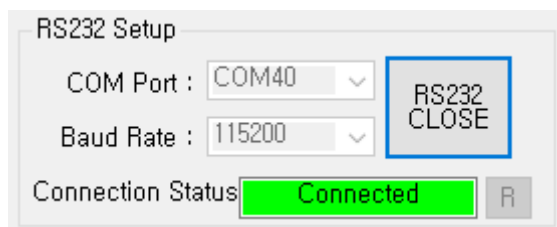
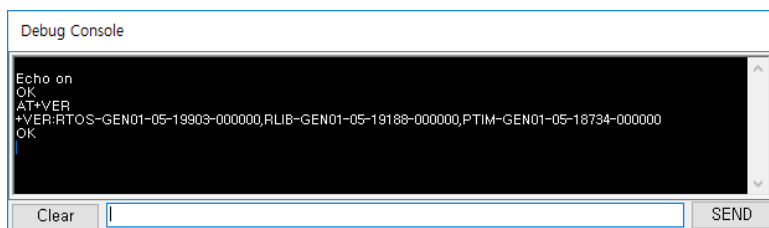

Figure 5: RS232 Setup - Connected
Figure 6: Debug Console - Connected
2. Select a COM port and click the RS232 **OPEN** button and wait for a few seconds. See Figure 5 and Figure 6.